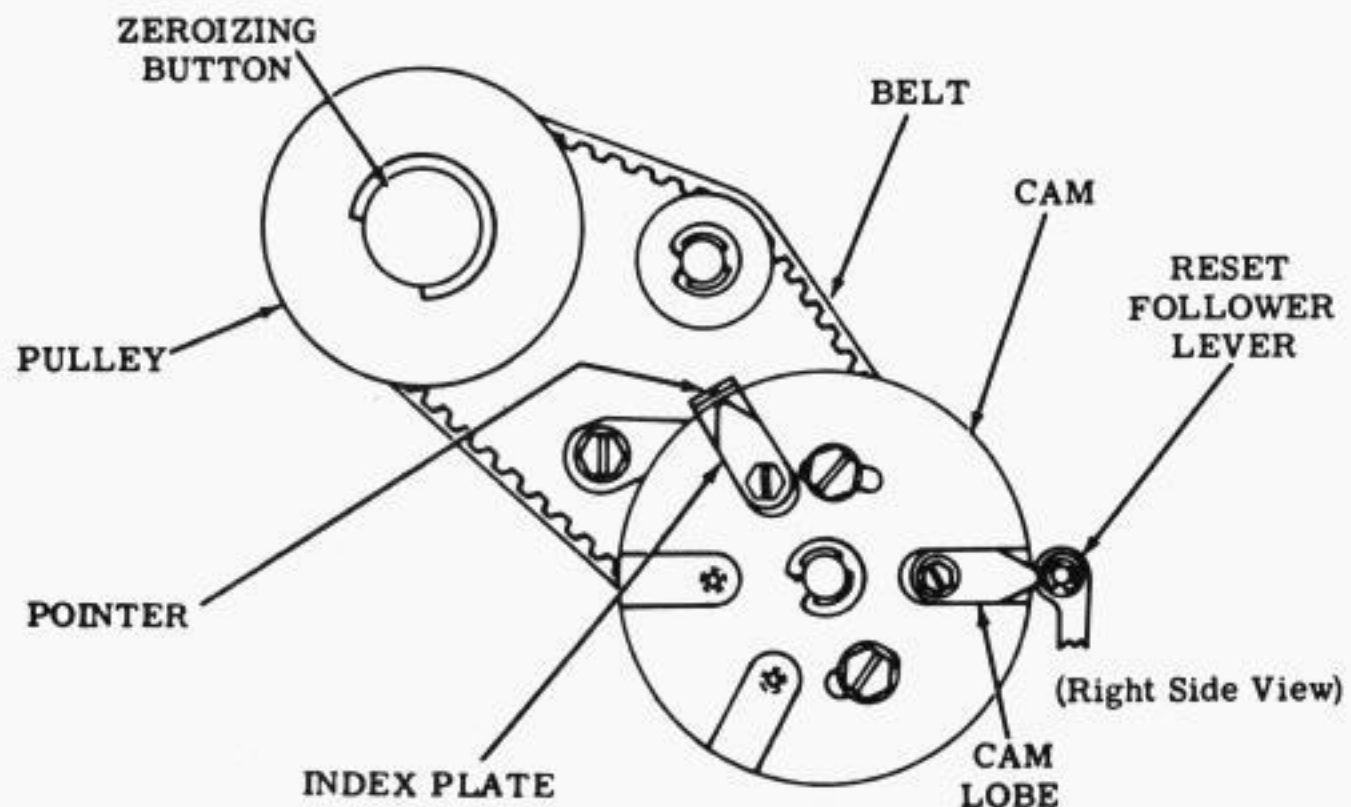

Figure 10 - Zeroizing Position of Platen Drive Mechanism - One Cam Lobe Operation
3.18 Figure 10 illustrates the zeroizing position of the platen drive mechanism for one cam lobe operation. For platen drive mechanisms using more than one cam lobe, see the CAM ZERO POSITION - S (FOA-33) and (FOA-34) adjustments in Section 574-172-700TC.